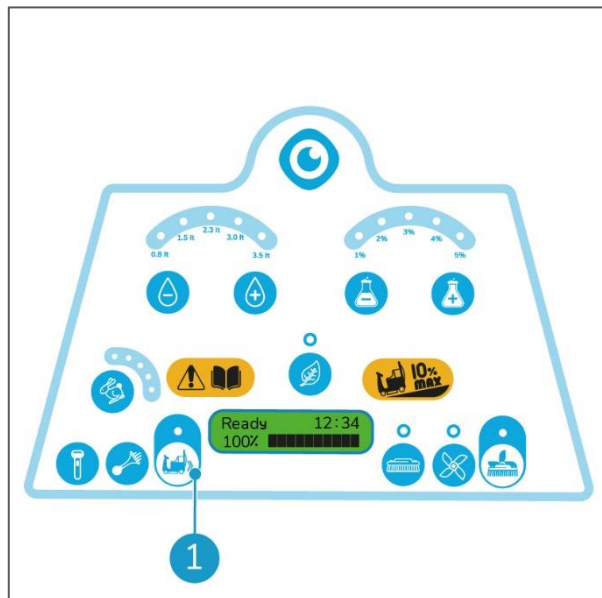

Figure 25
3. Press the reverse touch button (Figure 25, pos 1) to select reverse drive.